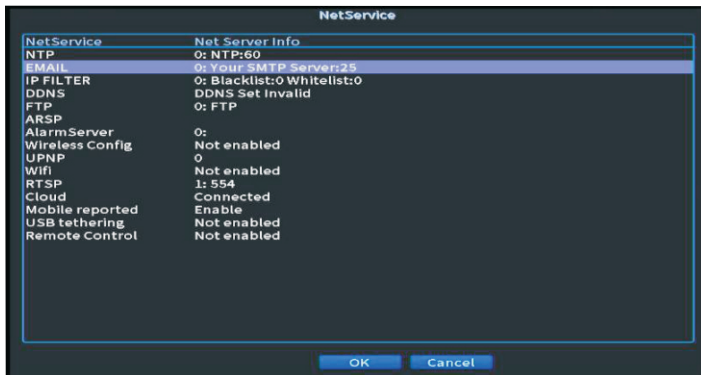

Figure 19. NetService screen. Click on “EMAIL”
5. Go to **Main Menu>Network>NetService**. NetService screen is shown. See Figure 19.
6. Double click on the “EMAIL”. See Figure 19.